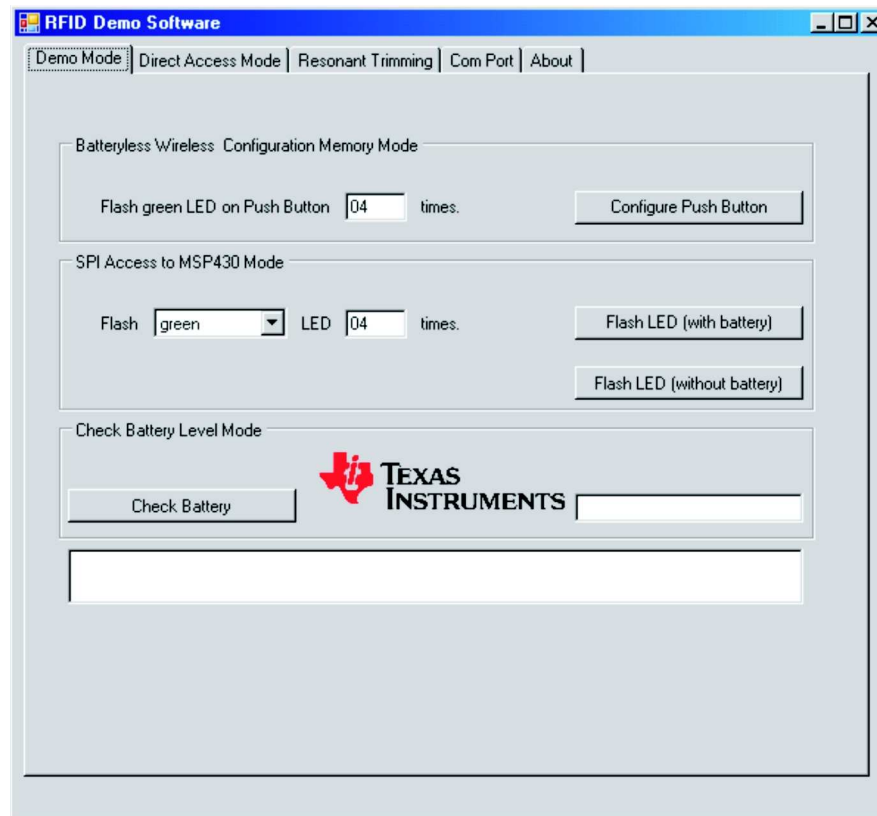

Figure 14. RFID Demo Software: Startup Screen
3. Start the RFID Demo Software from the PC (see Figure 14).